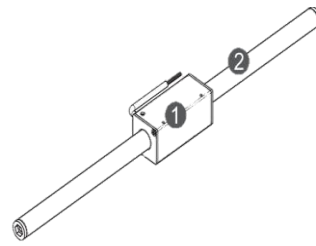

Figure5.2-9 Assemble the force and stator
- ▶ Place the forcer assembly ① onto the stator assembly ②. (refer to Figure5.2-9)